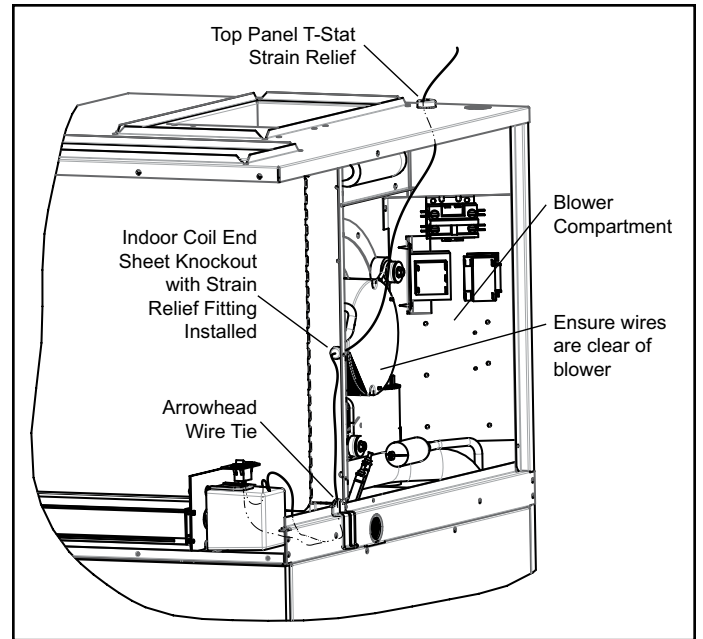
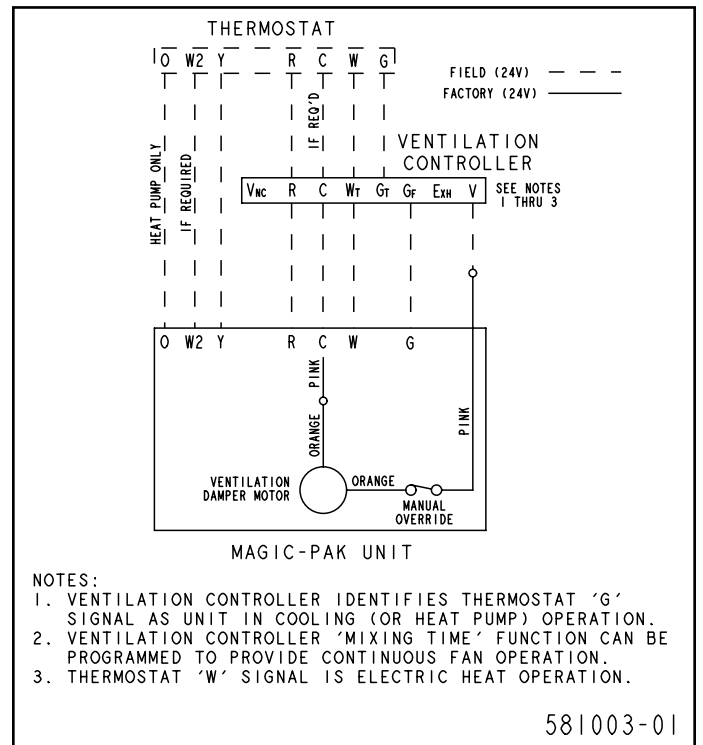

Figure 5. Route Wiring
Figure 6. Wiring Diagram
7. Remove Knockout from Indoor Coil End Sheet using a flat blade screwdriver (see Figure 5).
- b. Connect the terminated lead ends of the Wire Harness to Damper Motor and ON/OFF Switch (see Figure 5 and Figure 6).
- d. Install provided Arrowhead Wire Tie and Strain Relief Fitting and secure wiring (see Figure 5).
10. Mount Controller and connect unit and thermostat wiring (see Figure 6).